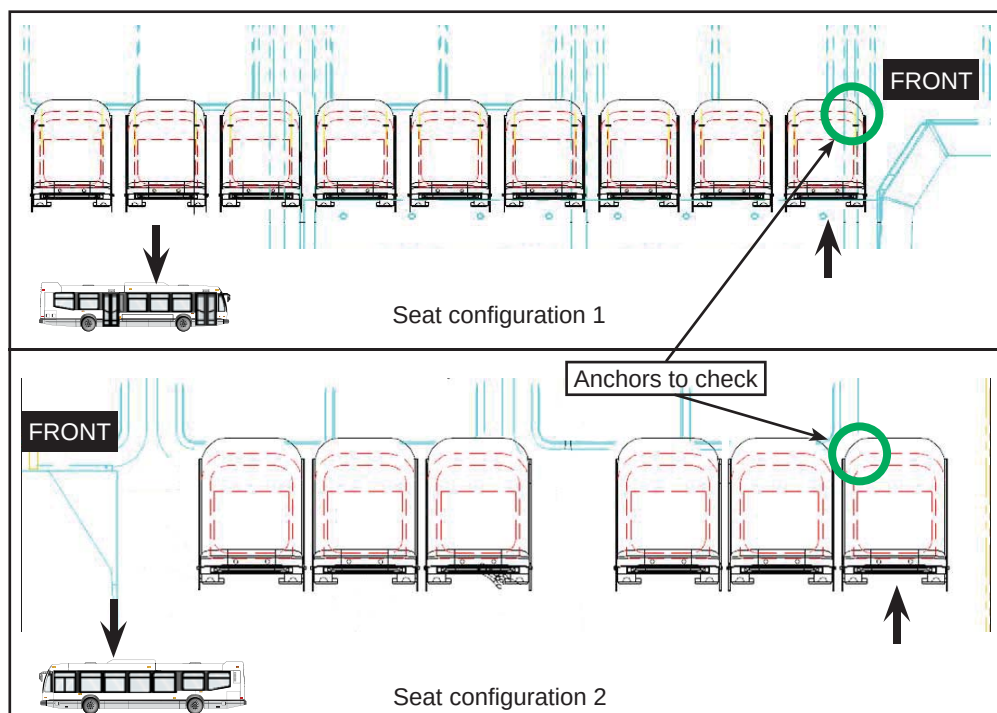

Figure 5 - Location of the Second Flip-up Seat Depending on your Configuration
- 1.10. Depending on your configuration, locate the second flip-up seat anchor to be checked. See Figure 5.